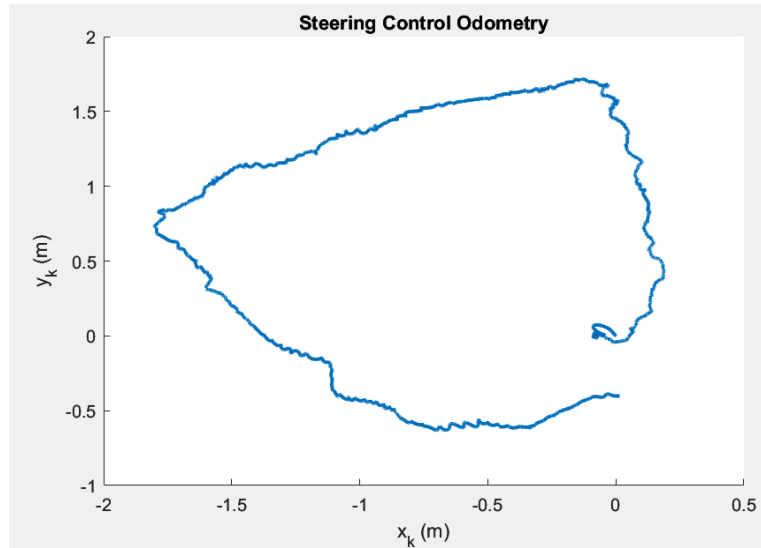

Figure 6. Ball Odometry Driving a 2m x 2m Square
When comparing our ball's odometry to actual position, we used our steering control to drive the ballbot in a square approximately 2m x 2m. In order to determine the robot's odometry, we recorded the ball's angular position ( $\varphi_x$  and  $\varphi_y$ ) during the steering control.  $\varphi_x$  and  $\varphi_y$  are calculated based on a kinematic conversion from the wheel rotation ( $\psi_1, \psi_2, \psi_3$ ). The ballbot's wheel rotation angles are determined based on encoder readings on each of the wheels. Using the equations (1)  $x_k = -r_k * \varphi_y$  and (2)  $y_k = r_k * \varphi_x$ , with  $r_k = 0.121\text{m}$  (the radius of the ball) we are able to calculate the ballbot's odometry. Figure 6 plots the ballbot's odometry when driving in a square.
As seen in the figure, the ball's odometry shows a lot of drift from the actual position relative to the start. This discrepancy is due to accumulated odometry error over time. The odometry is computed entirely from wheel encoder measurements. Any small error in the encoder readings or kinematic conversions from wheel rotations to ball angles accumulates overtime. Minor inaccuracies can cause drift, resulting in a lopsided or skewed square, like seen in Figure 6.